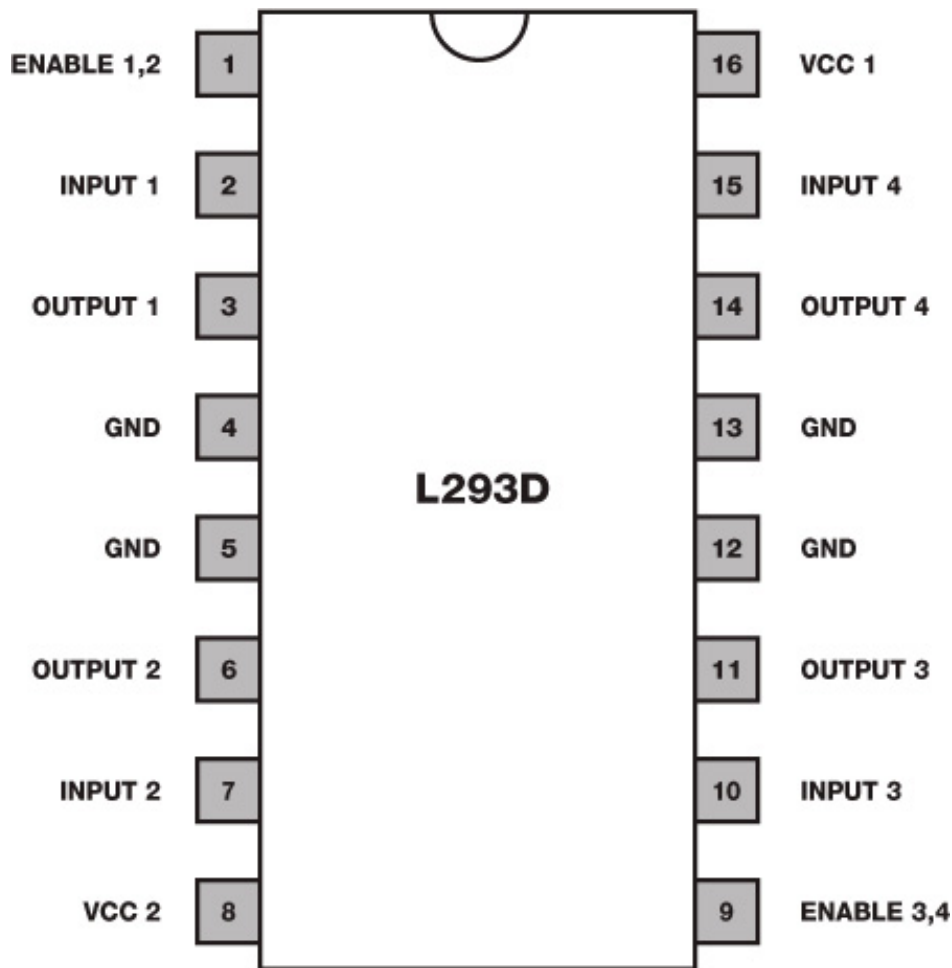

FIGURE 3-23 A pinout diagram of the L293D
2. The L293D has 16 legs, none of which are labeled, so you'll need to refer to the pin diagram in Figure 3-23 to connect the motor controller. You can also usually find this information in the chip's datasheet. ICs are numbered counterclockwise starting from the top-left pin. Pin 1 on your L293D is to the left of the notch at the top of the chip. Sometimes there's a dot on the chip next to pin 1 too.